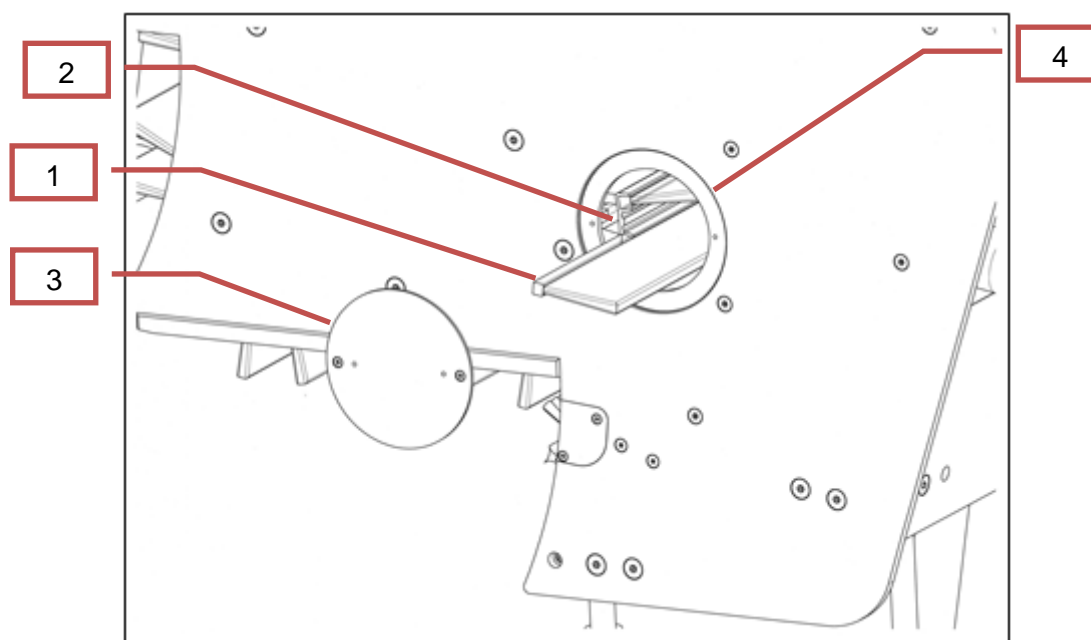

Figure 1 Brush assembly
If brushes (1) have not yet been installed in the guide rail (2), the lid (3) on the opening for replacing brushes (4) in the left side wall should be opened (see Fig. 1: Brush assembly).